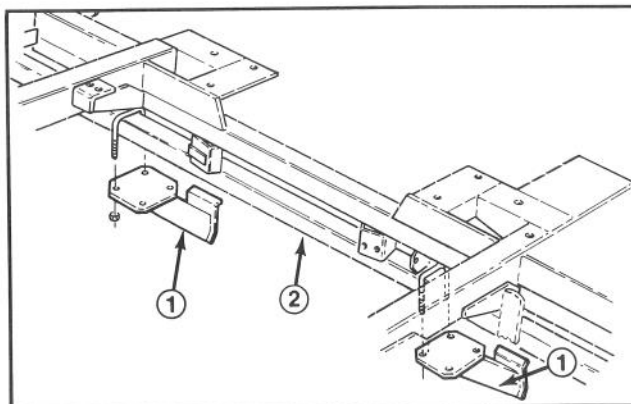

Figure 10
- A. Using frame diagram shown in Fig. 10, locate mounting position of roller bumpers on each side of frame tube in front of #1 cutting unit.
- B. Loosely secure a roller bumper to each side of frame tube, as shown in Fig. 10, with U-bolts and locknuts.